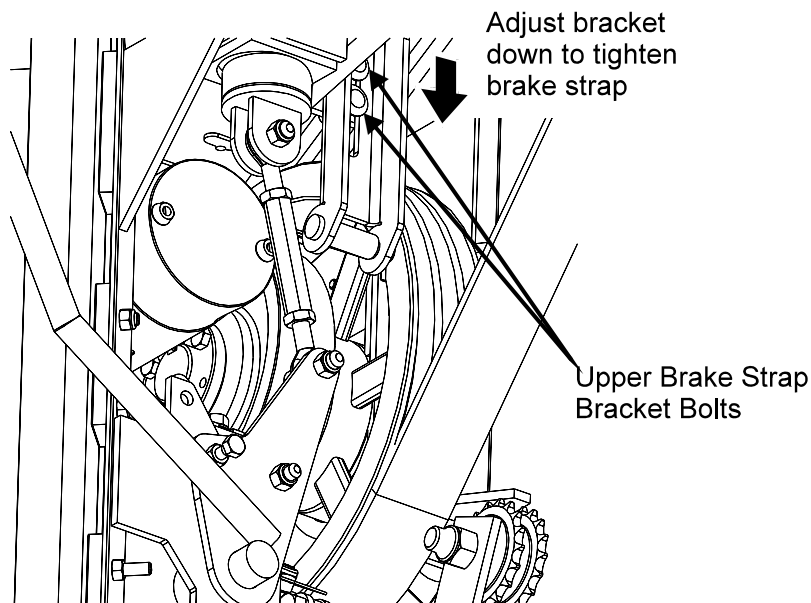

FIG. 4-6
**See Figure 4-6.** Loosen the two nuts on the upper brake strap bracket. Slide the bracket and brake strap down until snug. Retighten the bolts. Replace the belt cover.